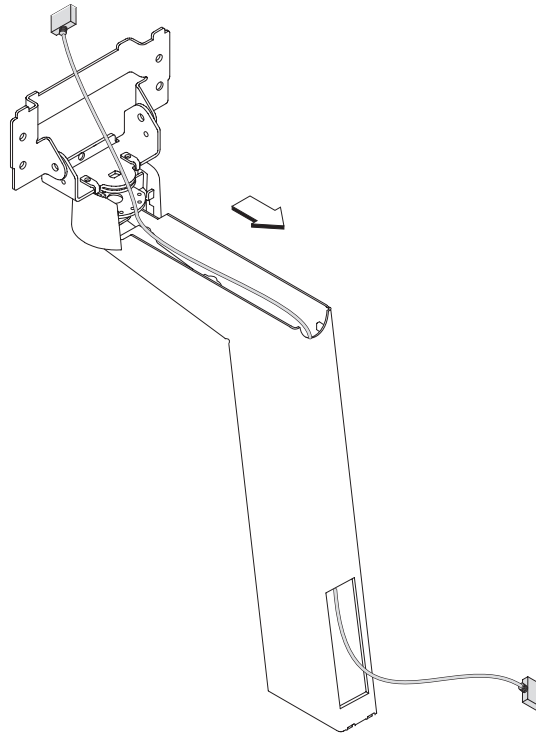

Figure 2-13. Video cable routing direction
2. As shown Figure 2-13, route the video cable down through the distributed pedestal and leave it unconnected.